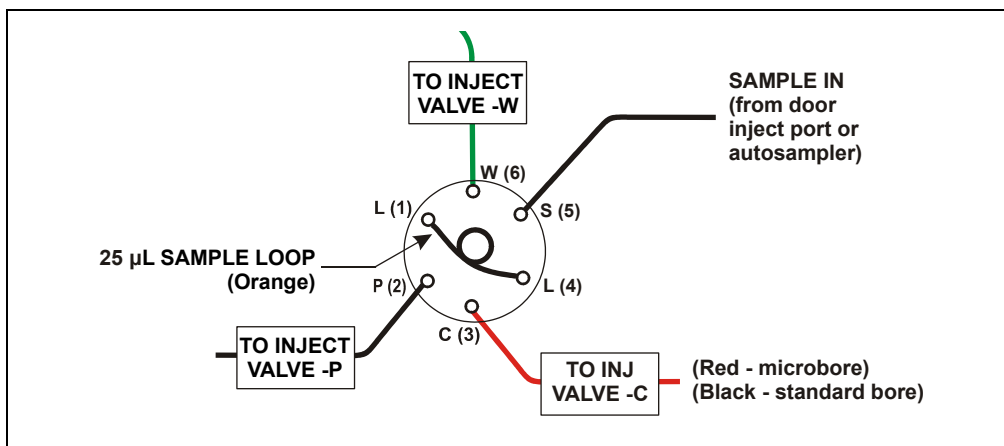

Figure 9-45. Injection Valve Plumbing (6-Port Valve)
- Reconnect all liquid lines to the injection valve (see Figure 9-45).